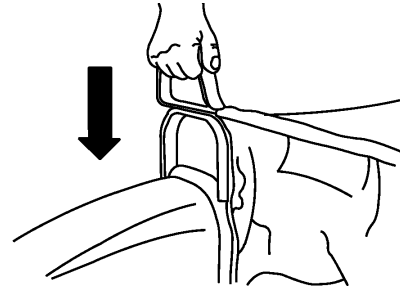

Figure 43
11. Grasp bag assembly handle and slide over flange of grass chute (Fig. 43). Push downward on handle until it seats into position.